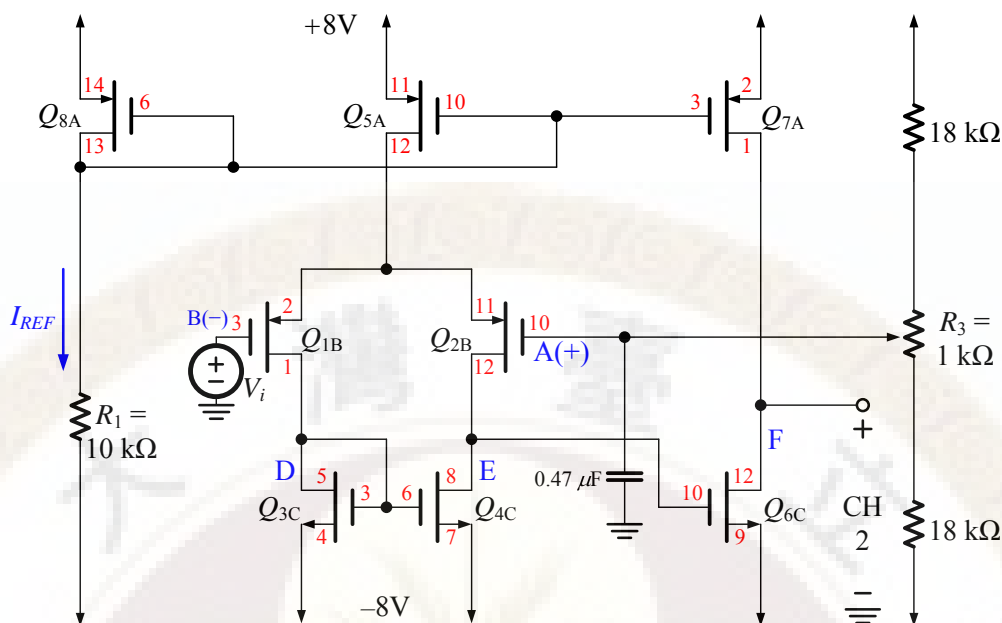

Fig. 4 Small signal applied in Two-stage OP-Amp circuit
(2) In Fig. 4, apply the input small signal V_i to the breadboard by using function generator to generate $v_i = v_{ac} \times \sin(2\pi ft)$, $2v_{ac} = 20mV_{(p-p)}$, $f = 1$ kHz.